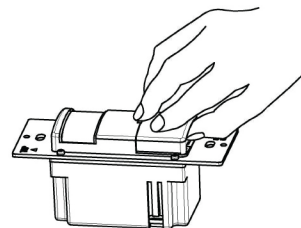

Figure 3
5. Remove the small cover plate (illustrated in Figure 3).
6. Locate the adjustment knobs on the control panel to perform test and adjustment (illustrated in Figure 3).